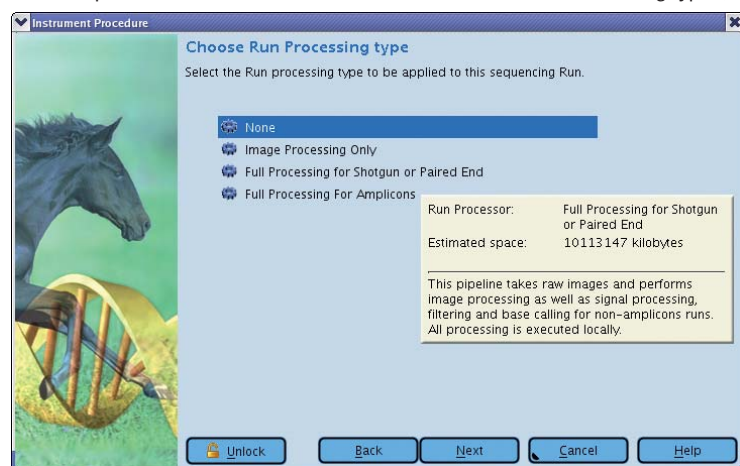

Figure 25: The Run Wizard's seventh window: Choose Run Processing type
- ▶ This opens the Run Wizard's seventh window: Choose Run Processing type (Figure 25).